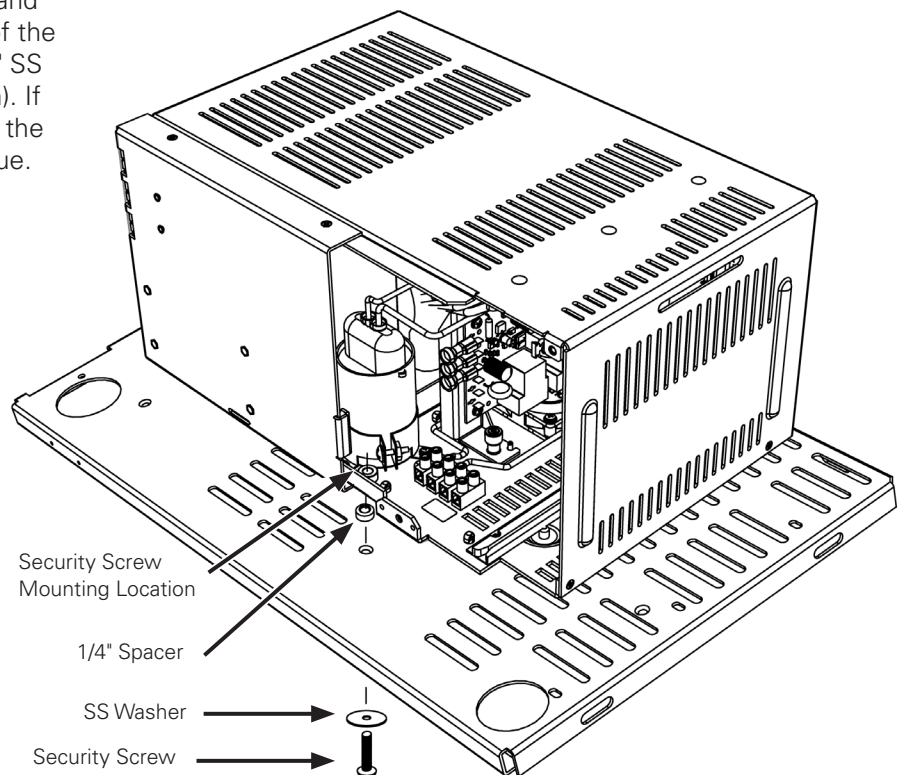

Fig. 2-3, Power Supply/Enclosure Shelf Security Screw Stack Up
5. Position the XM3.1-HP power supply with the security hole over the drilled hole and spacer (use the center punch to hold the spacer in place while positioning the power supply) (see Fig. 2-3).